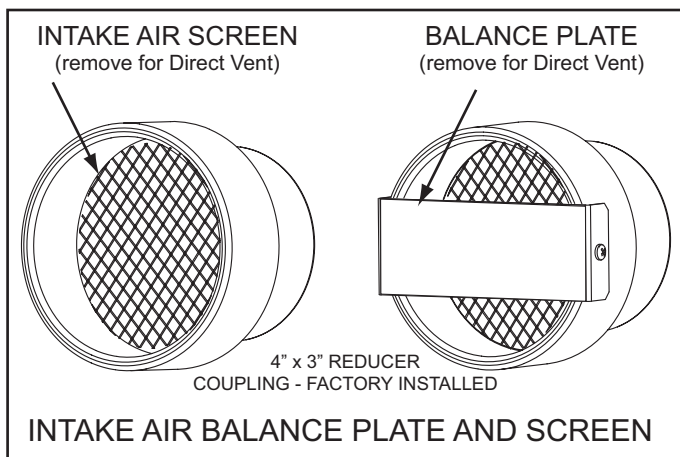

Figure 17
13. Ensure the Balance Plate and Intake Air Screen on the Intake Air Connection are both removed before connecting the intake air pipe to the water heater, see Figure 17.